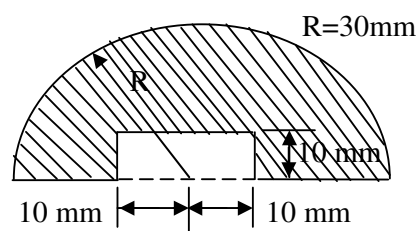

Figure 2
- b) Find the moment of inertia about the horizontal centroidal axis of shaded portion for the Figure 2. (8M+7M)